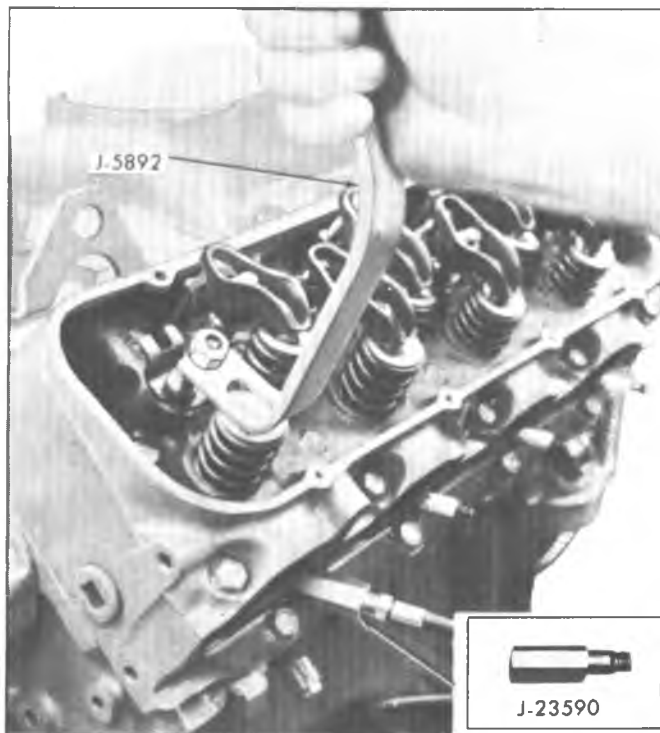

Fig. 7V—Compressing Valve Spring
4. Using Tool J-5892 to compress the valve spring, remove the valve locks, valve cap and valve spring and damper (fig. 7V).